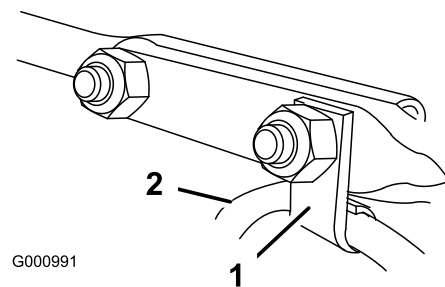

Figure 11
6. Insert the cable clip that supports the deflector cable onto the forward carriage bolt, and secure the carriage bolts with locknuts from the loose parts bag (Figure 11).